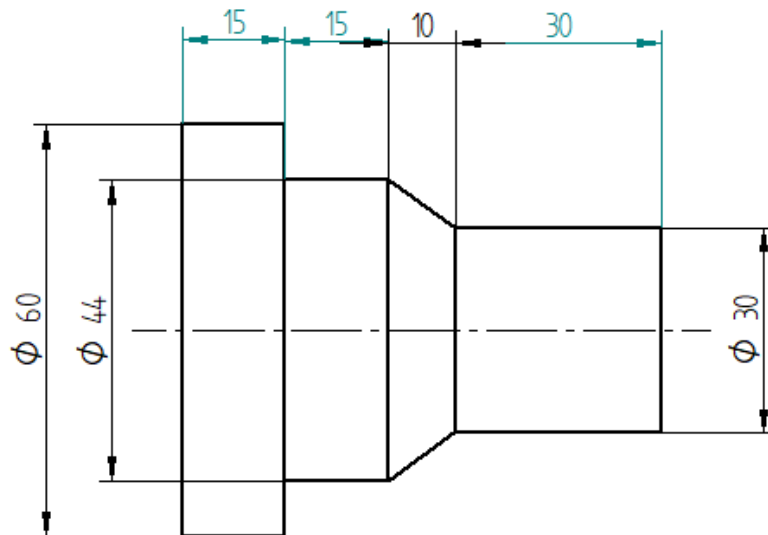

Fig 1
5. a) Write a manual part program for the following turning component shown in Fig 1. Use one finish cut and remaining rough-cut to remove the material (Select suitable raw material dimension). Use the following information: 12